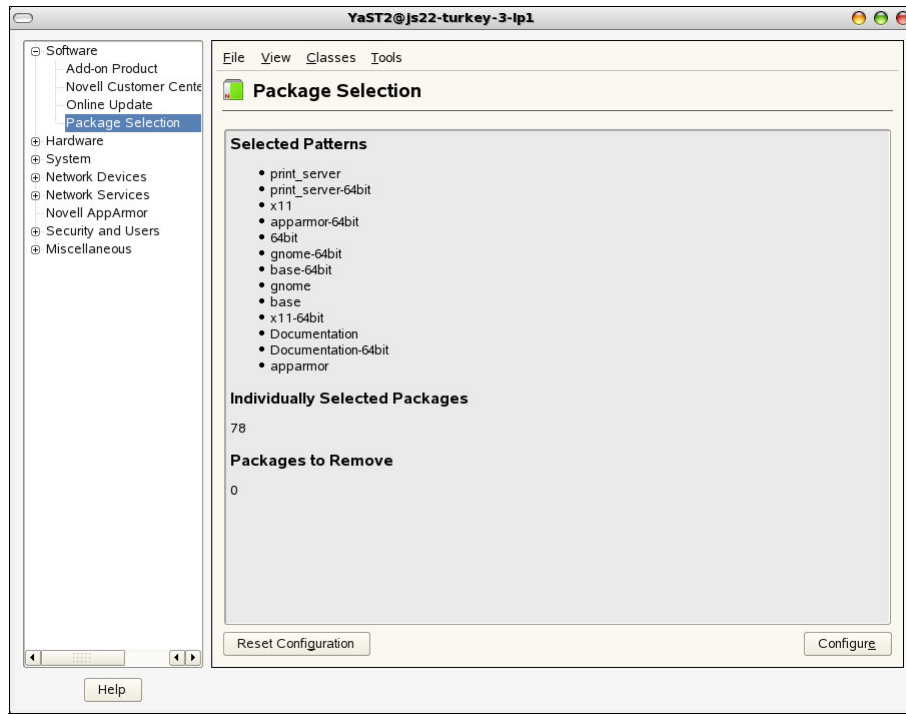

Figure B-7 AutoYaST software selection
- a. Software - Options to select and configure the Online Update and Package Selection sections. Figure B-7 on page 530 shows the **Software** → **Package Selection** window. We chose the minimum software configuration to save time during installation.